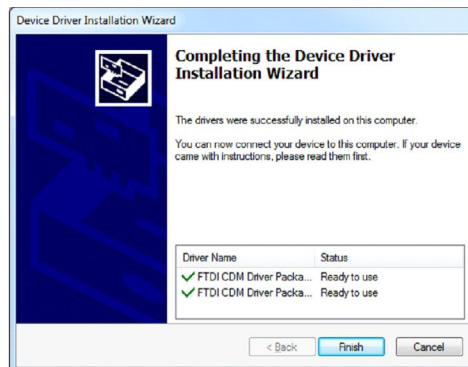

Figure 3.46. FTDI - Installation Complete
9. Click **Finish** when the device driver installation is complete (Figure 3.46).